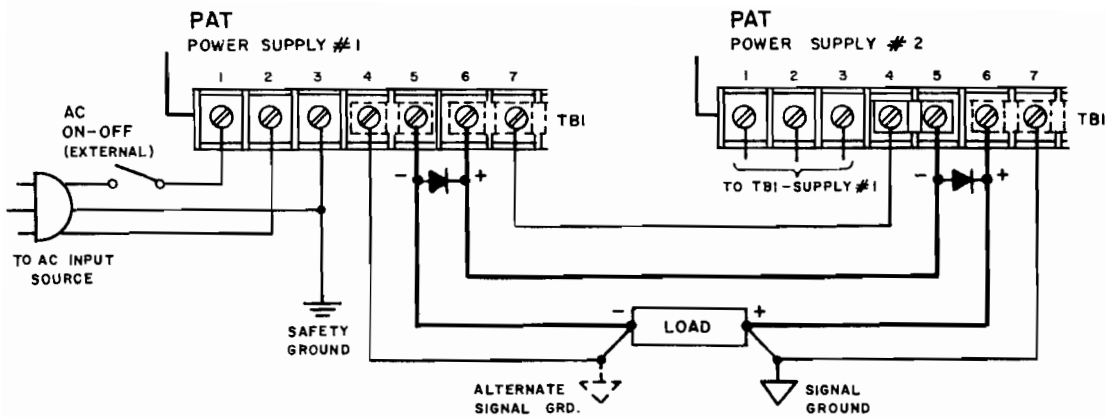

FIG. 3-11 SERIES CONNECTION OF PAT SUPPLIES.
3-34 GENERAL. Kepco PAT Modules can be series-connected for increased voltage output, provided the specified limits on voltage to chassis are not exceeded. When series-connected, the supplies should be protected by means of a semiconductor diode across the output terminals of each power supply, as shown in FIG. 3-11. The peak inverse rating of these diodes must be at least as large as the output voltage of the supply to which they are connected. The continuous current rating of the diodes should be at least as great as the largest short-circuit current of the interconnected supplies.
- Connect load as shown in FIG. 3-11. Keep voltage drop in load wires as low as practical by using heavy gauge wires.